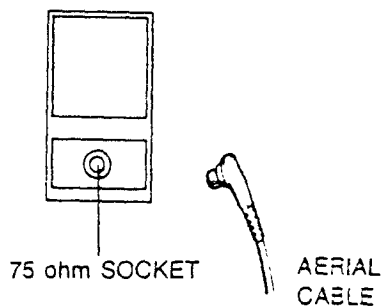
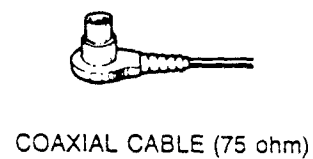

Figure 3
Figure 4
- In case of using the coaxial cable (75 ohm) for UHF aerial, connect the plug (refer to figure 4) into the 75 ohm socket as shown in figure 3.